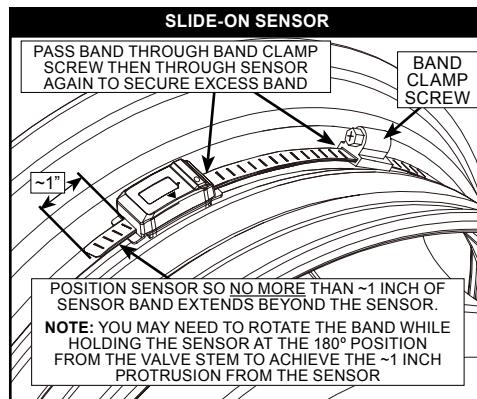

Figure 4: Slide-on internal sensor final install
4. Put the sensor and band clamp in the **center position** of the wheel hub and pass the band through the band clamp screw, then again through the belt-mounted sensor. See *Figure 4*.
- 2) On *SLIDE-ON SENSOR* position the sensor to secure the tail. See *Figure 4*.